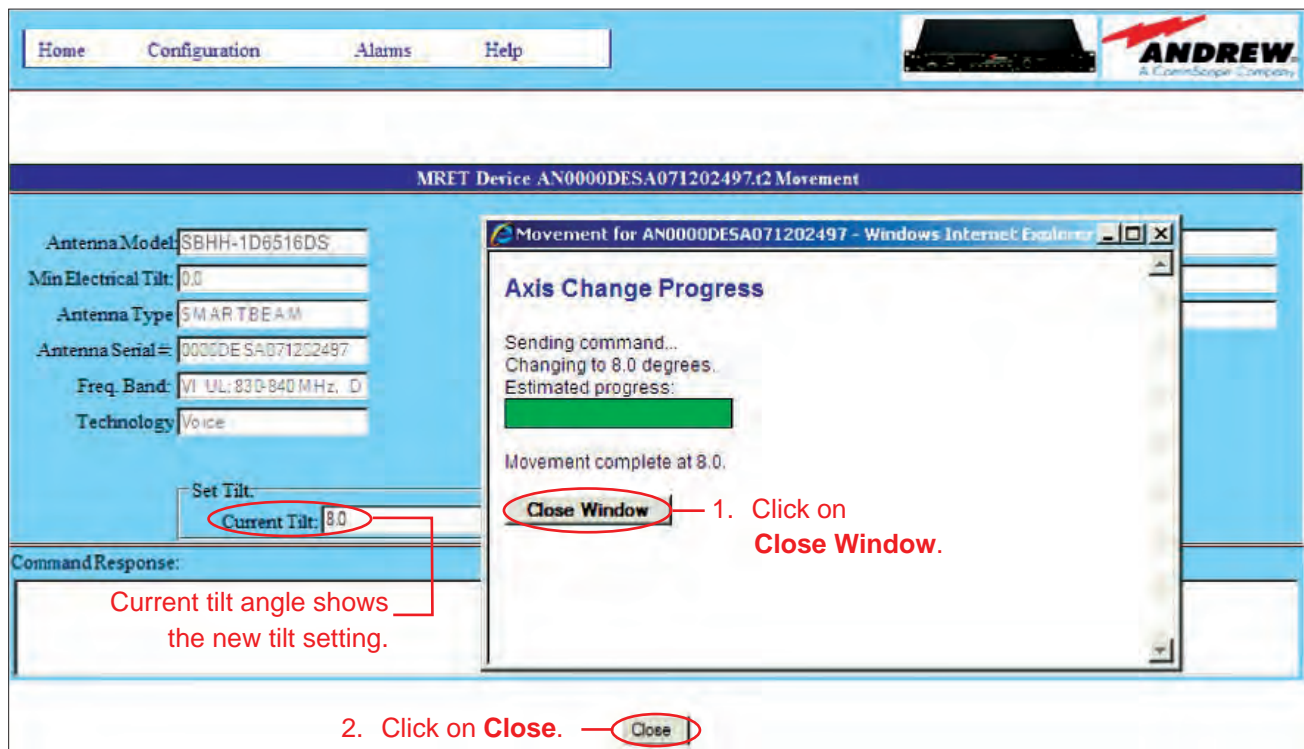

Figure 16-3. Tilt Change Complete For Single Antenna Move.
5. A progress indicator bar will appear in a pop-up window to continually provide an update for as long as the move is in progress. You will be notified when movement is complete. Click on **Close Window** from the pop-up window (Figure 16-3).
6. After the antenna has completed movement to its new tilt angle, the new angle will be displayed in the **Current Tilt** field and the **New Tilt** will be cleared in preparation for the next move (Figure 16-3).
At this point, you may click on **Close** (Figure 16-3) to return to the controller's main interface screen (Figure 16-4). Alternately, this process may be repeated to further adjust the downtilt or to reapply changes where movement had previously failed, such as a temporary mechanical jam.